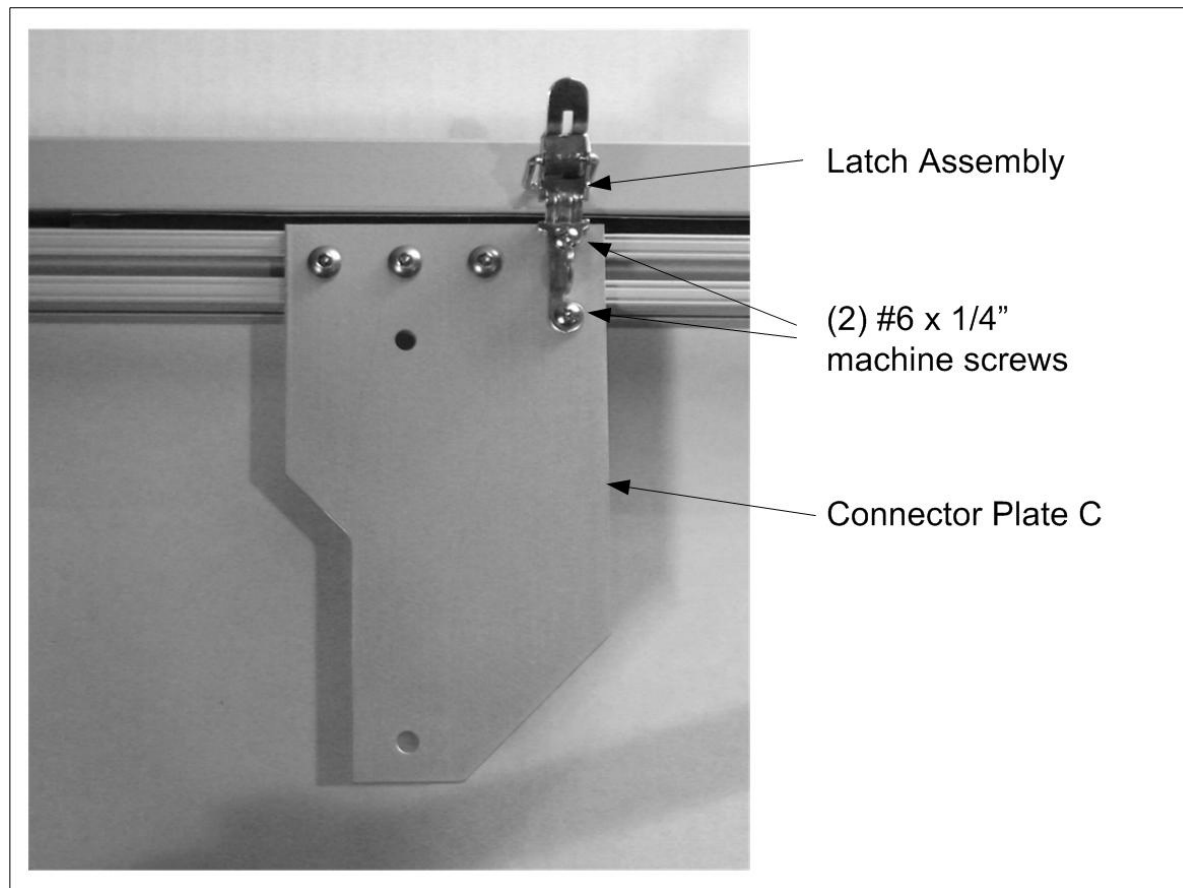

Figure 51
- (1) Neoprene Foam - 3/16 x 4' (This foam is the thinner of the two types included)
Mount each latch to a connector plate C using (2) #6 x 1/4" machine screws. See Figure 51.